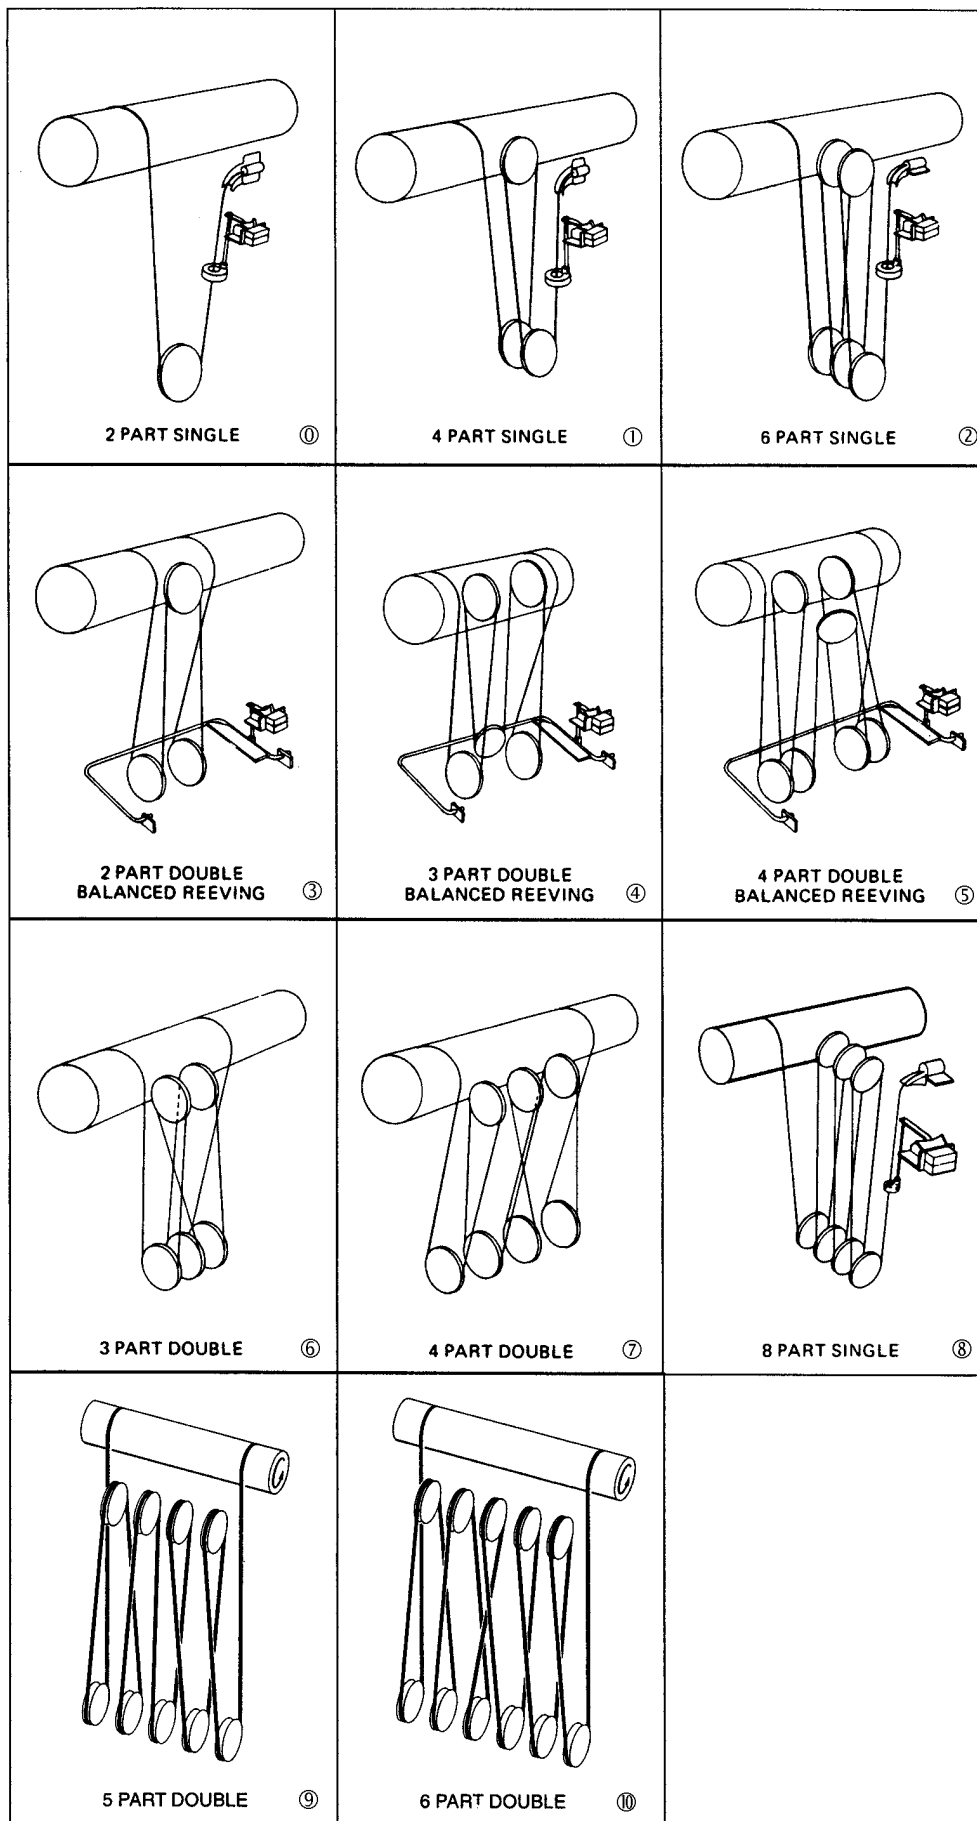

Figure 5-8. Reeving Diagrams
Before removing the old rope, refer to reeving diagrams, Figure 5-8. Face the rope drum on your hoist from the side which the rope comes off drum. To assist with rereveing your hoist, select the reeving diagram for your hoist. Note the description (such as 3 part double reeved, Figure 5-8, ④) and refer to paragraph below with the same description which describes rereveing procedure.
- (1) Lower the bottom block to a scaffold located 6 to 7 feet below hoist to relieve tension on wire rope. (Bottom block may be lowered to floor if desired; however, to handle less weight and for ease of rereveing adequate scaffold below the hoist is recommended.)
- (2) Remove bottom block sheave guard.
- (3) Remove key plates from both sides of sheave pin and slide sheave pin from bottom block.
- (4) Lift out sheaves from the top of the bottom block and remove wire rope.
- (5) Remove key plates or snap rings from upper block sheave(s) and slide out upper block sheave pins, releasing upper block sheaves. Remove wire rope from sheaves.
- (6) Make certain all personnel are clear of hoist and operate hoist "DOWN" to completely unwind all wire rope from drum. Stop hoist so drum anchor slot(s) is accessible. Remove live rope end socket(s) from drum.
- (7) TURN OFF POWER TO HOIST.
- (8) Open electrical compartment cover on single reeved hoists to remove dead end socket.
- (1) Pull far end of rope toward end of rope nearest hoist, until both ends are even and a loop is formed. Place fittings on both ends of rope in anchor slots on rope drum. Be sure end fittings are properly seated.
- (2) With all personnel clear of hoist - TURN ON POWER.
- (3) Operate hoist "UP;" guiding rope into grooves at both ends of drum, until the distance from the drum to the loop is:
- (4) Proceed with reeving as described in appropriate paragraph below and the reeving diagram for your hoist.
See Figure 5-8, ② for diagram.
- (1) Thread the remaining cable end through limit switch weight, then pass it over partial sheave, inside hoist, and insert in anchor fitting at hoist frame. Be certain power is off before opening electrical compartment cover for access to anchor fitting. Properly seat rope end fitting in socket and replace cotter pin in end of socket.
- (2) Grasp loop, formed after installing end anchor, and place bottom block sheave in loop. Lower sheave into bottom block and insert sheave pin. Replace key plates and bolts holding sheave pin in place.
- (3) Replace sheave guard. Make certain rope is not twisted. Should the two parts of rope tend to wind around each other, remove cable from anchor slot and untwist cable. Reattach the cable anchor.
- (4) Lubricate cable per Paragraph 4-3.
See Figure 5-8, ① for diagram.
- (1) Grasp cable at a point one-third (approx. 14'0") the distance hanging below the rope drum and form a loop. Place one upper sheave in this loop. Slide upper sheave with cable into sheave pocket; partially insert sheave pin to hold sheave in place.
- (2) Repeat (1) above and install second upper sheave with rope. Insert sheave pin and install key plates and bolts to secure sheave pin.
- (3) Thread rope end socket through limit switch weight; then, pass it over partial sheave, inside hoist, and insert in anchor fitting at hoist frame. Be certain power is off before opening electrical compartment cover for access to anchor fitting. With end fitting properly seated in anchor, replace cotter pin in end of socket. Three loops have now been formed for bottom block sheaves.
- (4) Place sheave in each loop. Install one sheave with cable in bottom block; partially insert sheave pin to hold sheave in place. Note: Be certain to install spacer washers between sheaves, when shown on parts illustration.
- (5) Repeat step 4 for remaining bottom block sheaves. Install sheave pin through sheaves. Replace key plates and bolts securing sheave pin.
- (6) Replace sheave guard.
- (7) Lubricate cable per Paragraph 4-3.
See Figure 5-8, ③ for diagram.
- (1) Form loops in the two ropes coming from rope drum. Place these loops into bottom block pockets and slide pipe or rod through sheave pin holes. Note position of ropes passing limit stop bar.
- (2) Partially insert upper block sheave pin in opening and install one spacer washer. Raise remaining rope up to hoist, form a loop and place upper sheave in this loop.
- (3) Place sheave with rope into upper sheave pocket and slide pin partially thru sheave. Install remaining washer and push pin thru side plates. Install snap ring on each end of pin to secure pin in place.